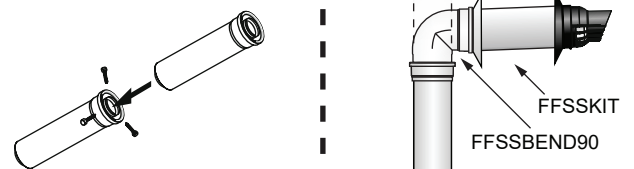

Fig. 13
8. All PVC joints must be secured with 3x #8x1/2" or equivalent self tapping screws (not supplied) as shown in Fig. 13.
- Using a combination of the installation procedures covered in the "EXTENDED HORIZONTAL FLUE" on page 6 and "Vertical Flue" on page 9, determine and install the required components. Note that PVC joints **MUST** be secured with three (3) #8x1/2" or equivalent self tapping screws (not supplied) Fig. 13 on page 9.